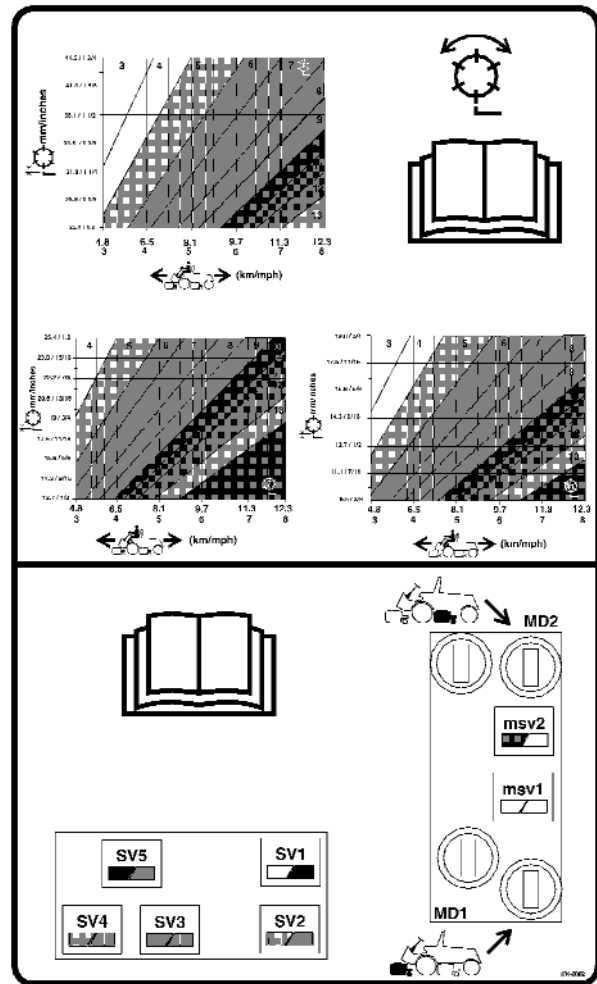

Figure 15
3. Using the appropriate graph (Fig. 15) for 5-, 7- or 11-blade cutting units, determine the correct reel speed setting.